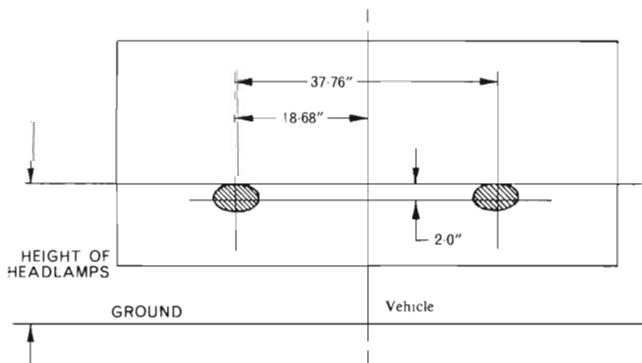

Fig. 3. High beam adjustment pattern (dual round).
- (1) Follow steps (1) and (2) of Para. 3.
- (2) Switch to high beam, mask off the outer pair and adjust the inner pair (as shown in Fig. 3).